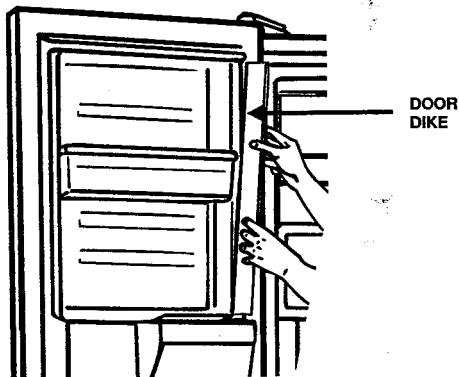

Figure 57
- Replace door dike by aligning push clips on dike with holes on freezer door. Push gently until dike snaps into place. See Figure 57.